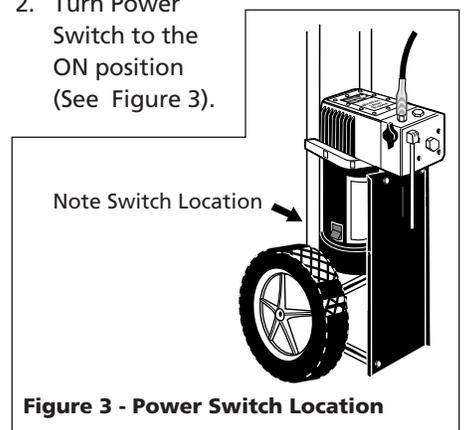

Figure 3 - Power Switch Location
2. Turn Power Switch to the ON position (See Figure 3).